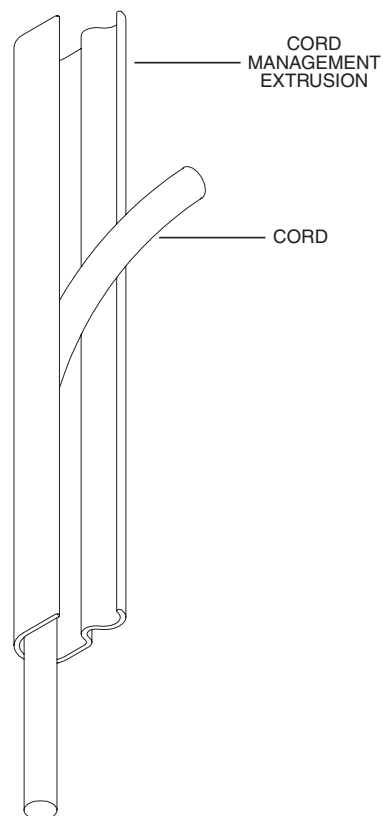

FIG. 1
3. Press the cord(s) (see above introduction) into the large side of the panel cord management extrusion. Start at one end and slide your finger the full length. (Figure 1).